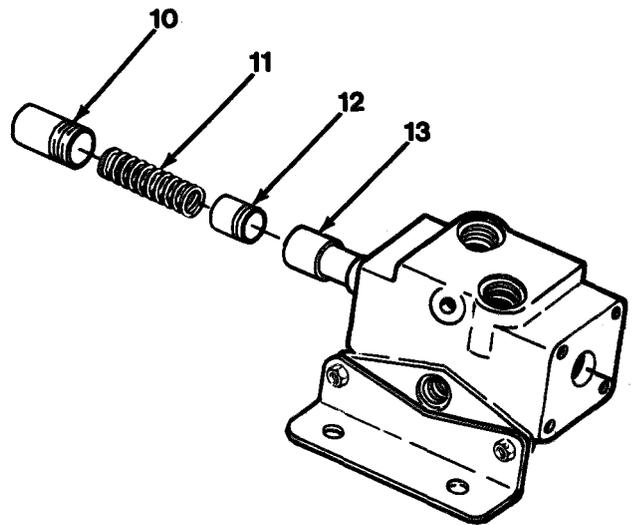

Figure 13-3
5. Install two spring retainers (12), springs (11) and spring retainers (10) to tubes (13, Figure 13-3).